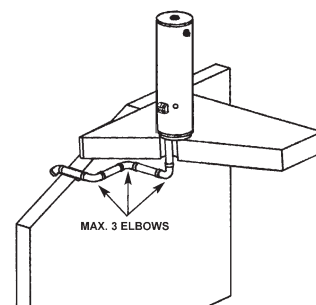

Figure 25: Air Intake
6. The intake air vent piping can be installed with no more than 3 elbows. See Figure 25.